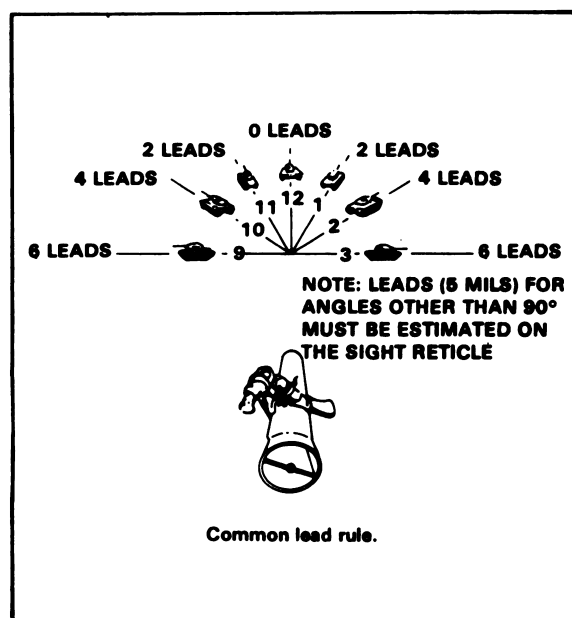

Figure 4
c. Lead Estimation (fig. 4).
(1) A moving target is led by the distance it travels from the time the rifle is fired until the projectile crosses the path of the target. The number of leads applied varies with the apparent speed of the target, but not the range.
(2) One lead is applied on the sight reticle for each 2 1/2 miles per hour of apparent speed of the target.
(3) As a common lead rule, the number of leads required is determined by the direction the target is moving in relation to the gun position (fig. 4). Target speed is assumed to be 15 miles per hour. If the target is moving directly toward or away from the gun position, no leads are required.